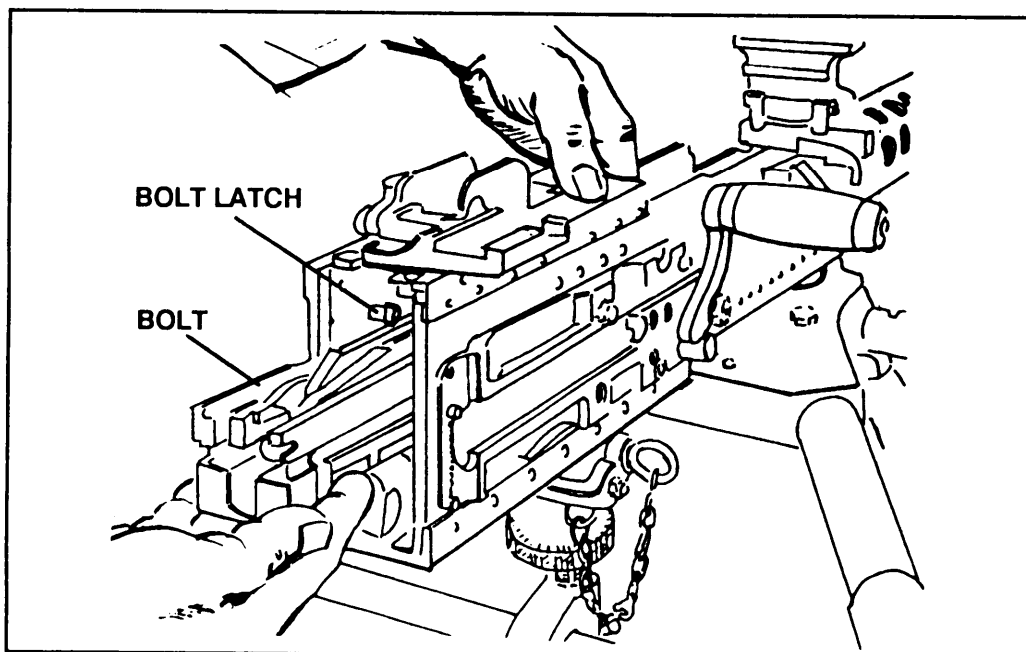

Figure 2-11. Removing the bolt from the receiver.
e. **Bolt Group.** After freeing the bolt, slide it to the rear and out of receiver (Figure 2-11). Place the bolt down on its right side (with the extractor arm up), so that the extractor will not fall from the bolt.